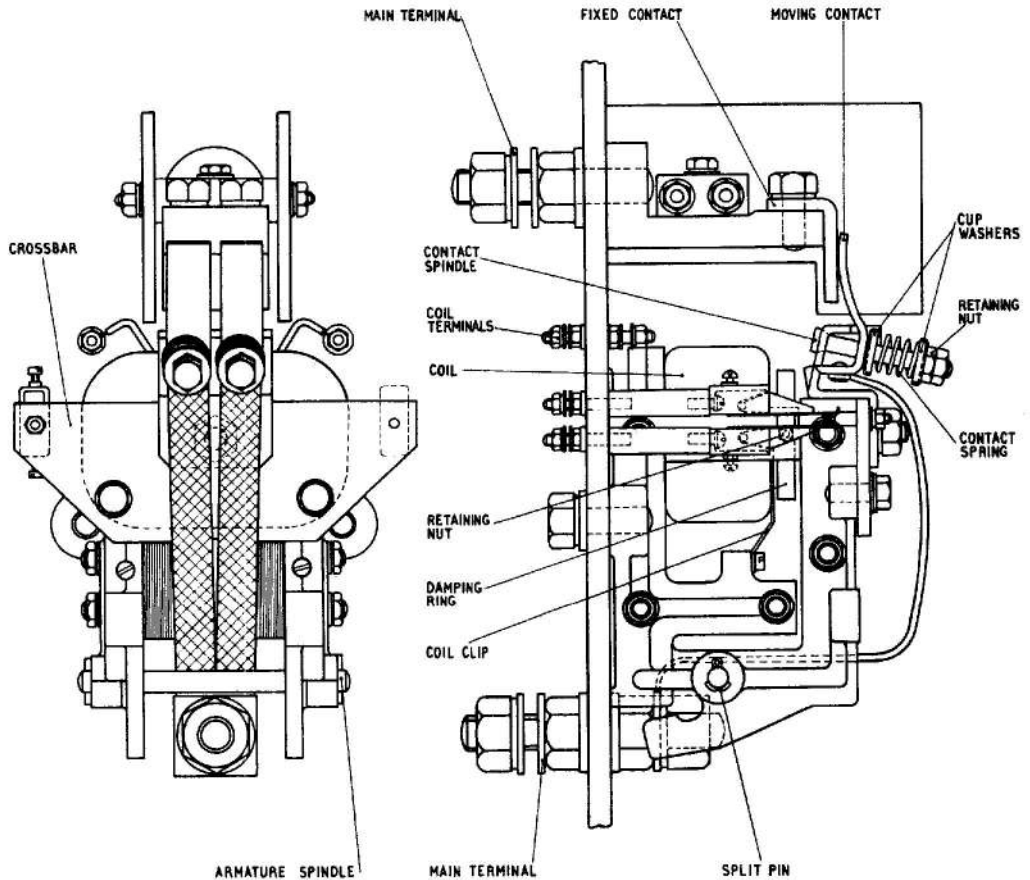

Fig.6. Typical Contactor
14. All the contactors are manufactured by Geipel Ltd., and a typical type is illustrated in fig.6. The individual characteristics of the different types are given in Table 3.
16. The procedure for dismantling a contactor is as follows (fig.6):-
17. Removal of moving contacts (fig.6)